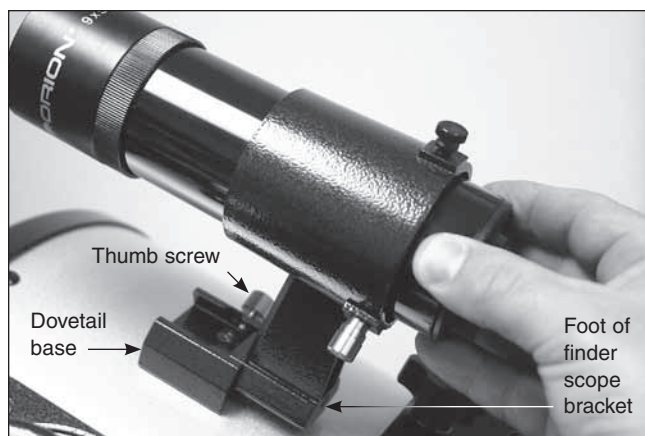

Figure 32. The foot of the finder scope bracket goes into the dovetail base and is secured with the thumb screw.
2. Insert the foot of the finder scope bracket into the dovetail base located adjacent to the telescope's focuser (**Figure 32**). Lock the bracket into place by tightening the thumb screw on the dovetail base.